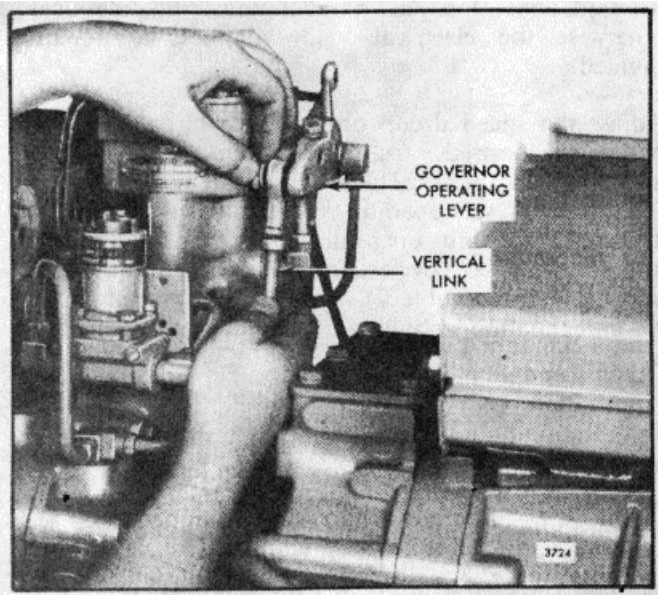

Fig. 17. - Adjusting Vertical Link
16. Adjust the length of the vertical link so that the bolt holes of the levers and the centers of the rod end bearings are lined up (Fig. 17).